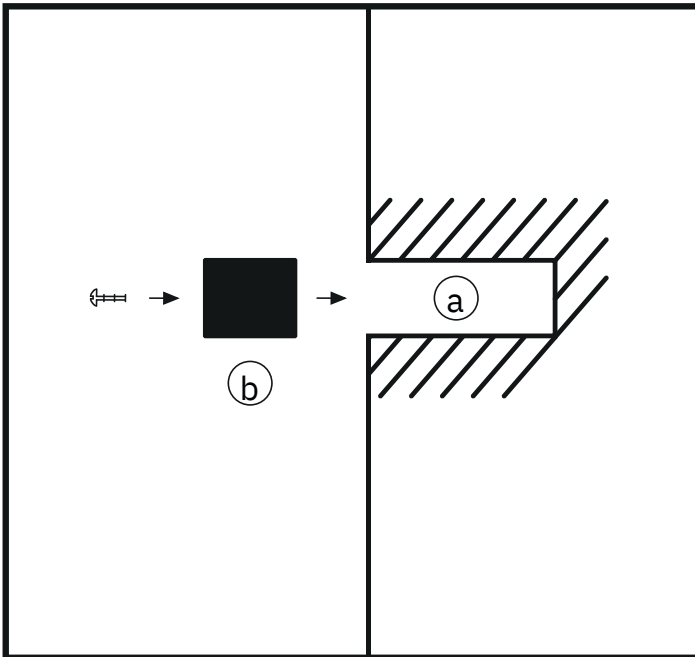
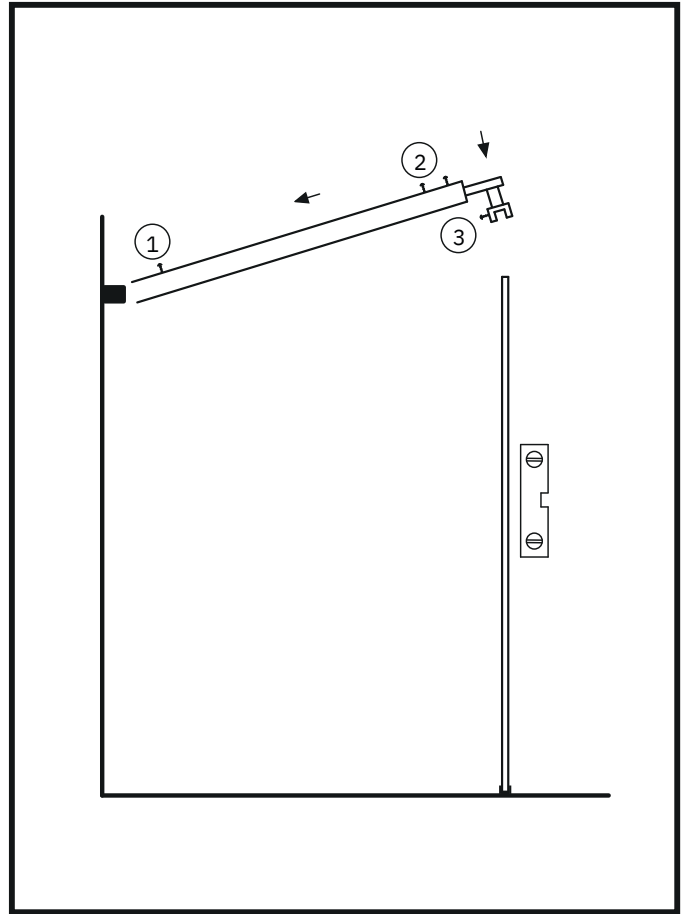

Figure 9
Figure 10
19. Install the gaskets included with the tube between the telescopic tube mounting clamp (3) (the part that attaches to the glass) to prevent the glass from coming into contact with the metal. (Figure 10)
21. Mark the spot on the wall for drilling the mounting hole (a) (see Figure 9), and remove the telescopic tube.
22. Drill the hole for the dowel (a) at the marked location, remove any dust from the hole, and insert the dowel. (Figure 9)
23. Unscrew the screw (1) on the telescopic tube (see Figure 10) and remove the wall-mounted part (b) (see Figure 9).
24. Insert part (b) into the previously drilled hole (a) in the wall and secure it with a screw. (Figure 9)
25. Take the telescopic tube and carefully install the wall mount (b) inside the telescopic tube and rest the other end (3) on the planned location, on the glass. (Figure 10)
26. Tighten and secure screw (1). NB! The mounting point must be oriented upwards!
27. Secure the telescopic mount to the glass with screw (3). NB! It is important that you have previously installed the gaskets included in the set between part (3) Metal parts must not come into contact with the glass, as this may cause the glass to break.
28. Adjust the glass using a level and secure the telescopic tube with screws (2), with their heads facing upwards.